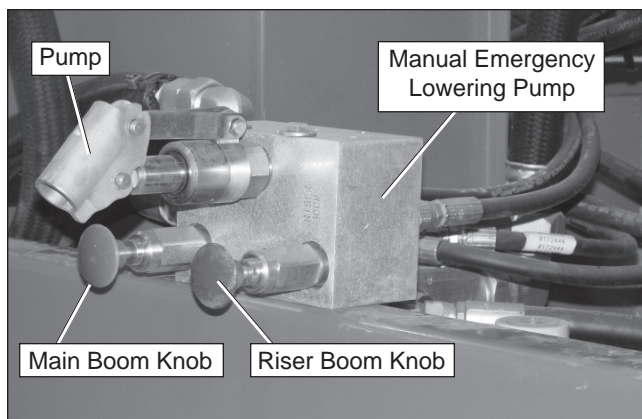

Figure 7.13 – Manual Emergency Lowering Pump
3. The pump handle is mounted next to the Operator's Manual holder. Insert the handle into the pump (refer to Figure 7.13).